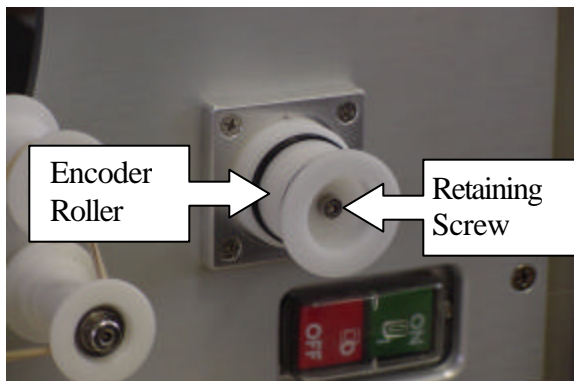

Figure D1
- 1) Remove the screw that retains the encoder roller. Set it aside for later. See Figure D1.
- 2) Remove the encoder roller and set it aside. See Figure D1.
- 3) When it is fully seated, attach with the retaining screw from step 1, parts removal. See Figure D1.